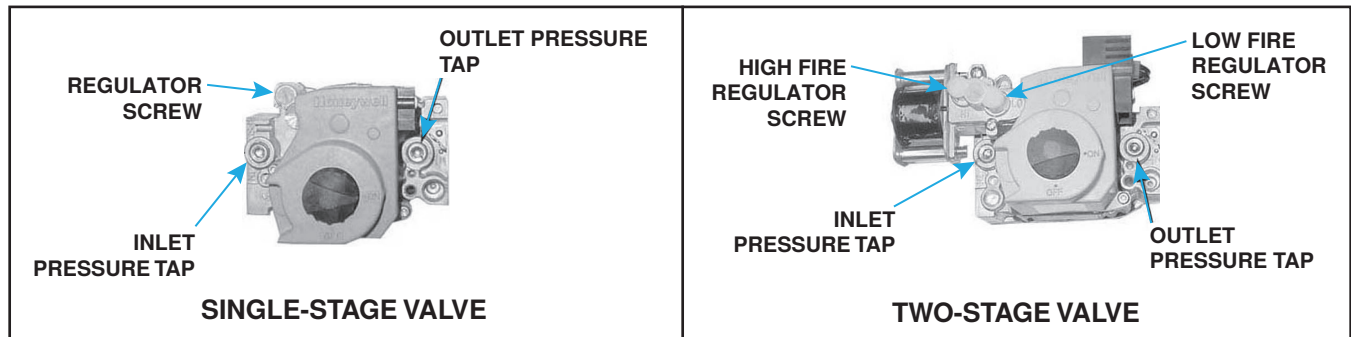

Figure 27. Combination Gas Valves
1. With manual valve (on combination valve) positioned to prevent flow to main burners, connect manometer to outlet pressure tap (see Figure 27) on valve.
3. Normally, adjustments to factory-preset regulator should not be necessary. If adjustment is necessary, set pressure to correct settings by turning regulator screw (see Figure 27) IN (clockwise) to increase pressure or OUT (counterclockwise) to decrease pressure. Consult valve manufacturer's literature provided with furnace for more detailed information.
2. Connect manometer to inlet pressure tap on combination gas valve(see Figure 27).